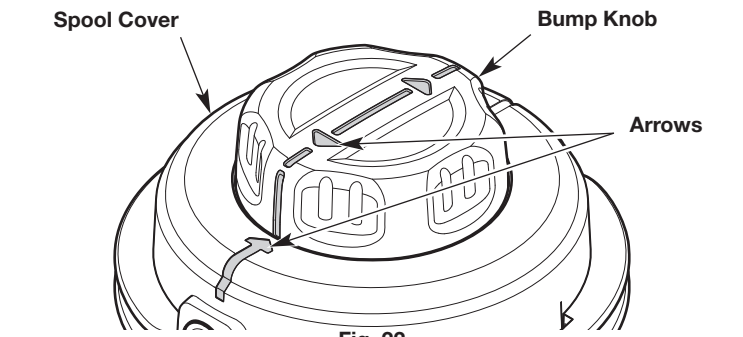

Fig. 22
- Turn the bump knob to align the arrows on the bump knob with the arrows on the spool cover (Fig. 22).